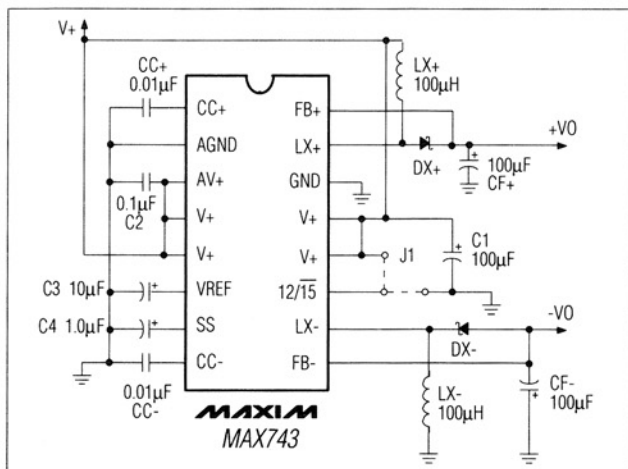
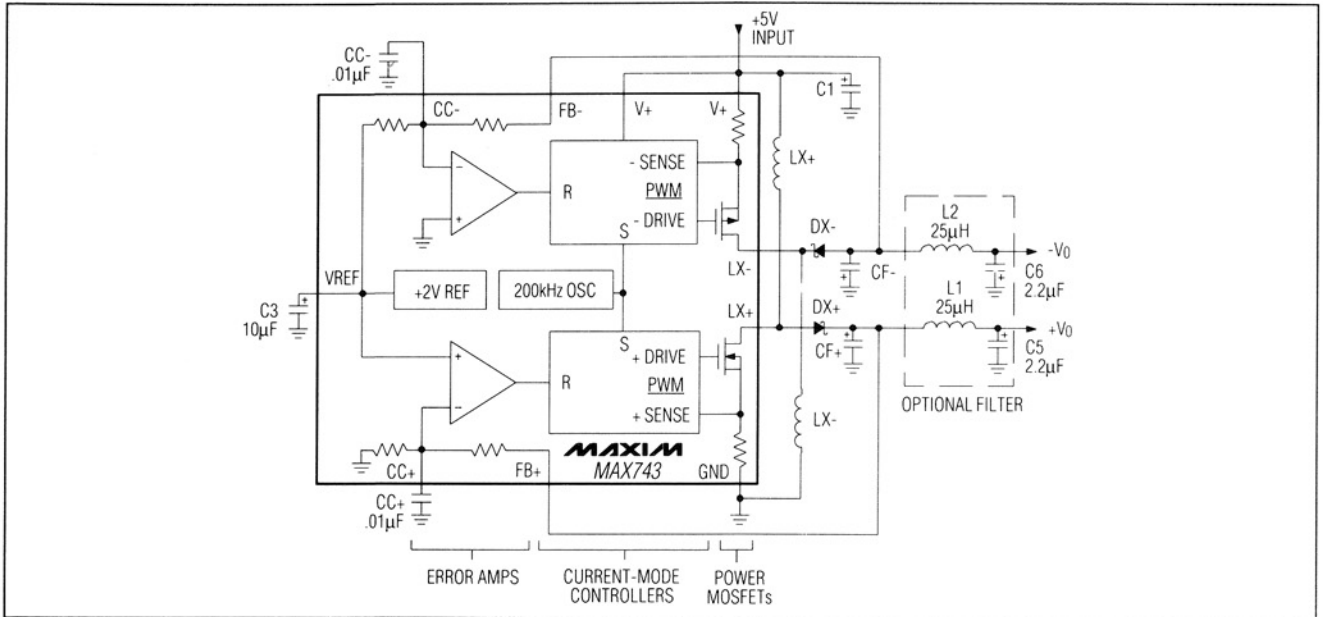
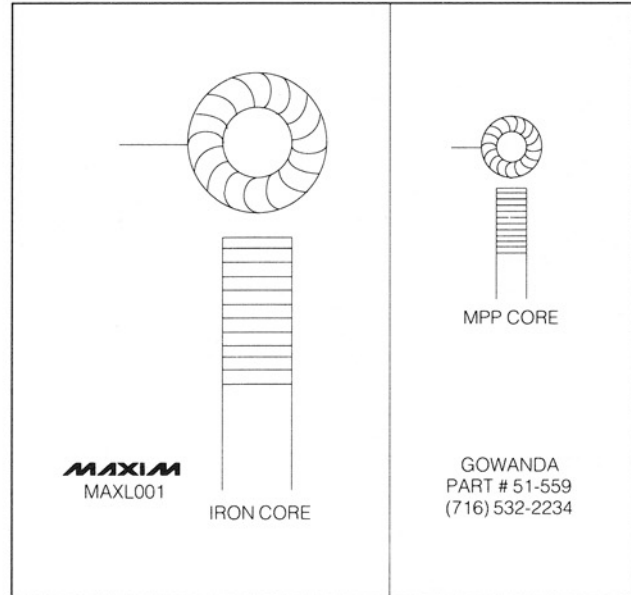
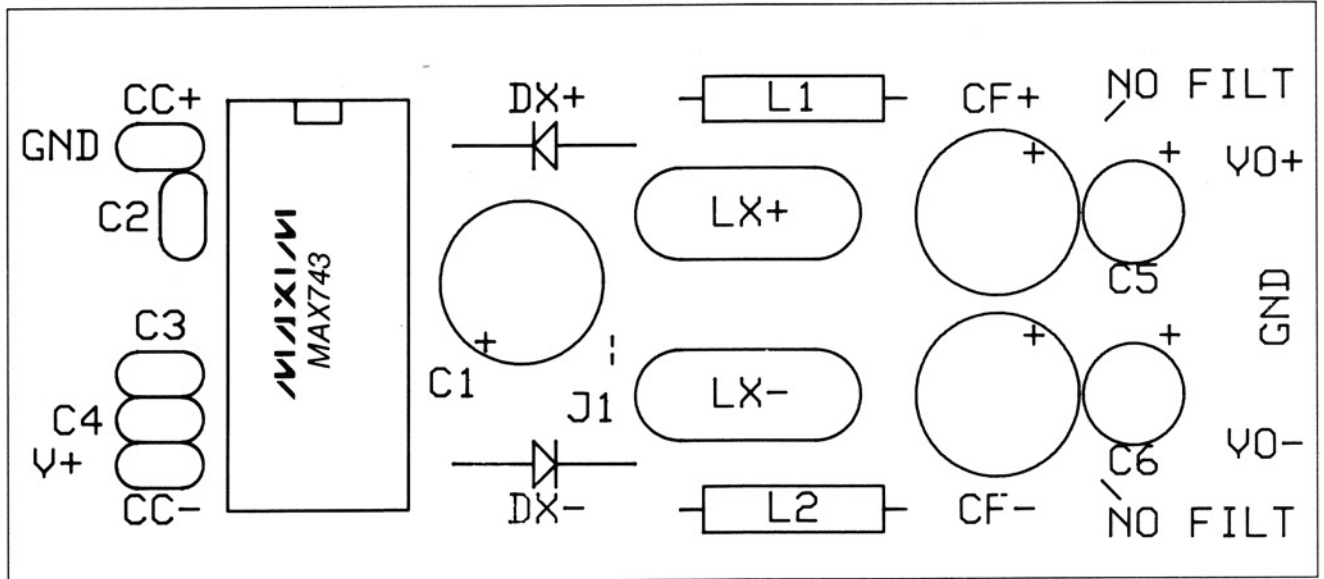

Figure 1. Basic Application Circuit
Figure 4. Functional Diagram with Optional Pi Filter
Figure 5. 100µH Low-EMI Inductors for 3W Supplies (Actual Sizes) (See Table 1)
Figure 7. Component Placement Diagram for PC Layout of Figure 6
(Circuit of Figure 1,  $+4.5V < V_+ < +5.5V$ , Note 1.)
(Circuit of Figure 1,  $V_+ = +5.0V$ ,  $12/15$  pin =  $0V$ ,  $I_{LOAD} = 0$ ,  $T_A = T_{MIN}$  to  $T_{MAX}$ , unless otherwise noted.)
The circuit in Figure 1 has been tested at all line, load, output current, and temperature limits. Refer to the Electrical Characteristics table for guaranteed in-circuit specifications. Successful use of this circuit requires no component calculations.
The MAX743EVKIT Evaluation Kit demonstrates the output capabilities and noise performance of the MAX743 standard application circuit (Figure 1). The kit includes main switching components identical to those found in the high-volume production kit described on page 11 (MAX743CPEKIT). With a few quick modifications, the circuit can also serve as a low-noise test bed to evaluate other components, such as the miniature MPP toroid inductor of Figure 5. The kit includes optional Pi filters shown in the Functional Diagram (Figure 4), which reduce output noise to less than 2mVp-p.
**1. Build Circuit.** Assemble the PC board according to the component placement diagram of Figure 7 and the schematic of Figure 4. 3 resistors will be left over (and used for testing). The extra holes near LX and CF are options for nonstandard component sizes. Do not install jumper, J1, or C4.